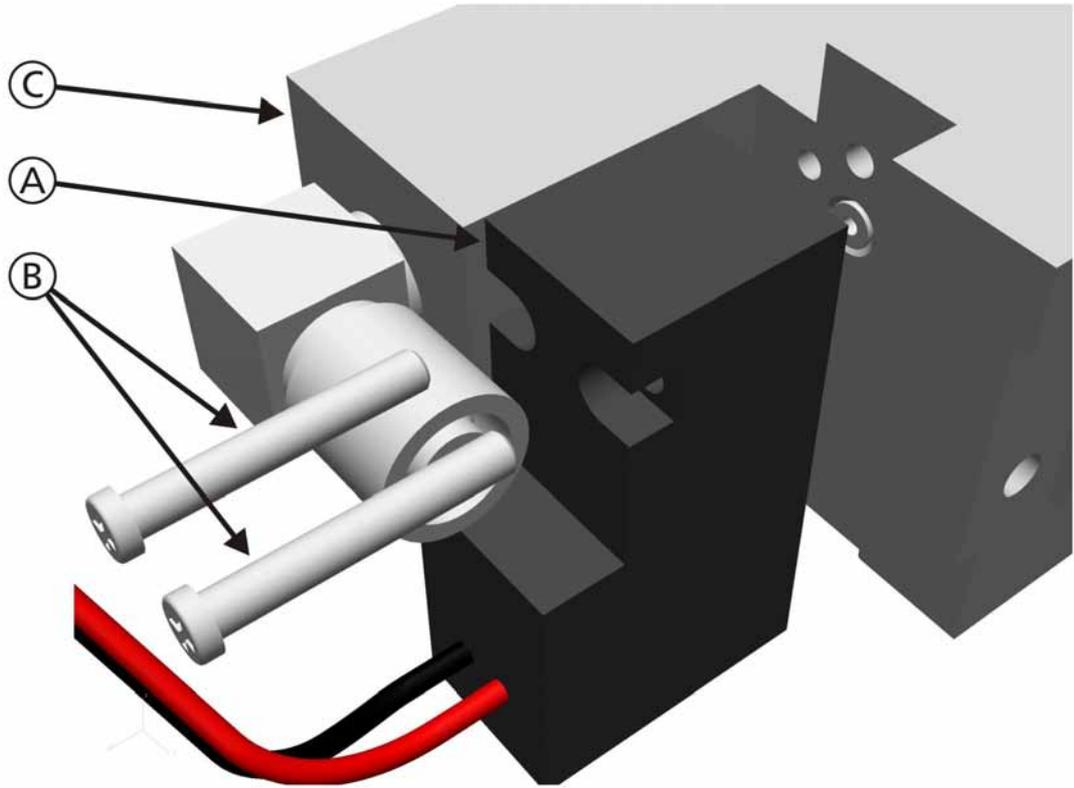

Figure 11-46. Oxygen Mixer Block Assembly, Step 1
- Figure 11-46, *Oxygen Mixer Block Assembly, Step 1*, on page 11-53